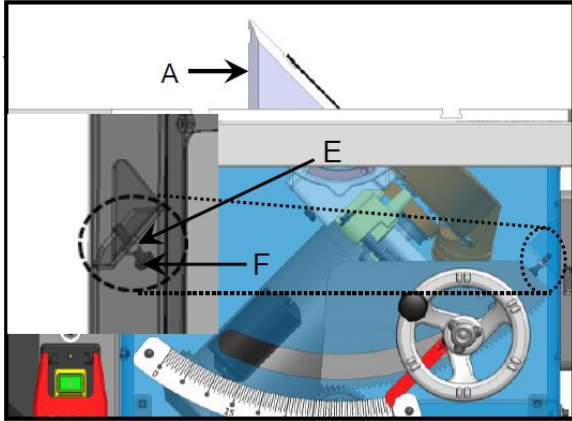

Figure 36
You can verify the 45 Deg. setting by tilting the blade as far as possible to the left and using the combination square, check the angle. If needed adjust as for the 90 Deg. Stop. In this case remove the storage box (H) figure 36 and loosen the Hex Nut (E), figure 36. Turn the 45 Deg. stop screw (F), figure 36 under the table using a hex wrench. Then turn the hand wheel until the blade is at 45 Deg. to the table surface. Re-tighten the 45 Deg. Stop screw and Hex Nut until a slight resistance is felt. Do not over-tighten.